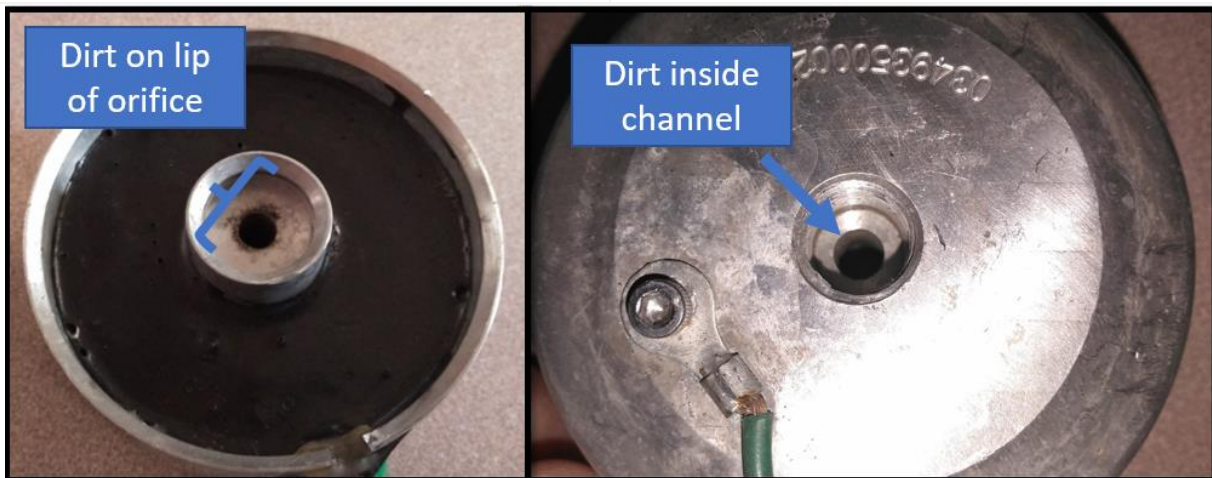

Figure 242. Clean Channel in Inlet Cap using a Small Wire Tube Brush.
STEP 29 | Clean the channel in the inlet cap using a small wire tube brush (**Figure 242**), followed by a cotton swab soaked in 95% ethanol. You may need to apply ethanol to the opening from both sides and let sit for a few minutes. Continue until all debris is removed. Allow to dry before reassembly.